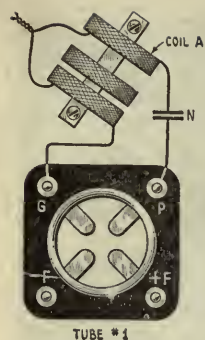

FIG. 9
IT WILL be seen from the photographs that the coils in the first intermediate transformer are not evenly spaced. This is because with a fixed value of neutralizing condenser the neutralizing can best be done by moving the coil A in Fig. 9. The value of the neutralizing condenser is about equal to the
**A**FTER the set is completed and the tubes are in place, connect the A battery and light the tubes. If they light, then turn them off and connect the - B battery to the + A binding post. Then touch the +B wire to the +B binding post. This may spark the first time it is touched because of the capacity of the bypass condenser, but it should not do so more than once. Then the +B 45 may be connected and the set is ready for adjusting. Turn the volume control rheostat full on and then light the tubes to normal. With phones plugged in the last jack, it ought to be possible to tune-in a powerful station after connecting the loop. Oscillation in the first tube may be noted by a series of bird-like whistles as the dials are turned. This may be stopped by moving the coil A, Fig. 9, to the proper point, or by varying the neutralizing condenser. If the set is wired properly, this adjustment is not very critical.